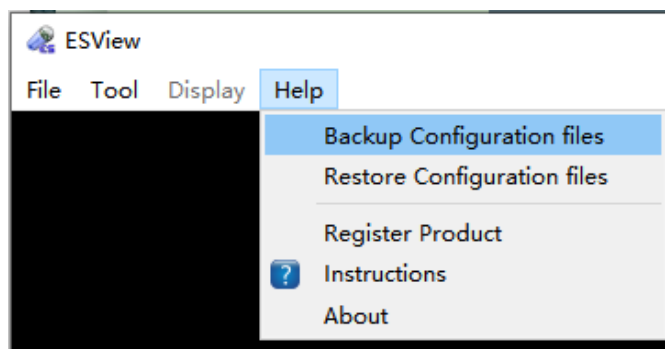

Figure 4-71: Backup Configuration File
3. Select “Help” → “Backup configuration files” in the menu to manually backup the configuration files once. If the backup is successful, a dialog box confirming successful backup will appear (Figures 4-71 and 4-72).